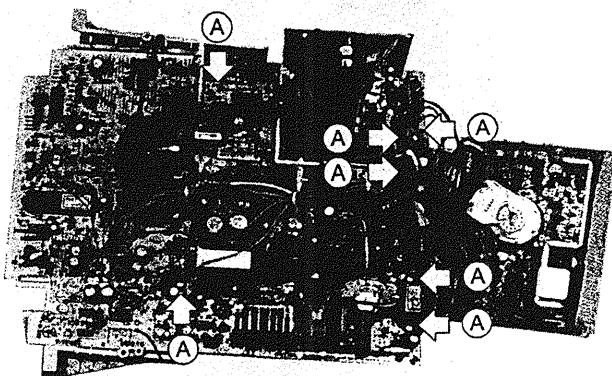

Figure 2-7
5. Remove the seven screws from the main board. Refer to the figure 2-7 (A).